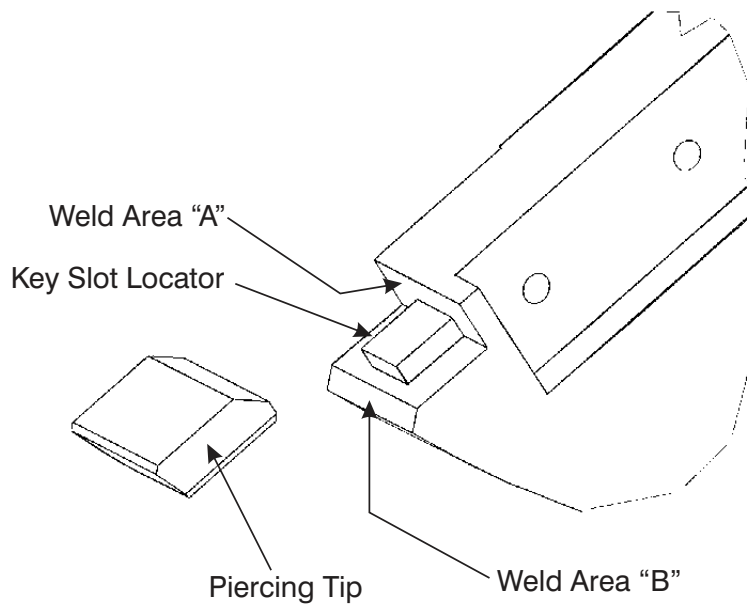

Figure 8-2. Field Welding Piercing Tip
3. Fit the new piercing tip over the key slot locator; refer to Figure 8-2. The tip must fit metal to metal on both sides of the key slot and up against the jaw.